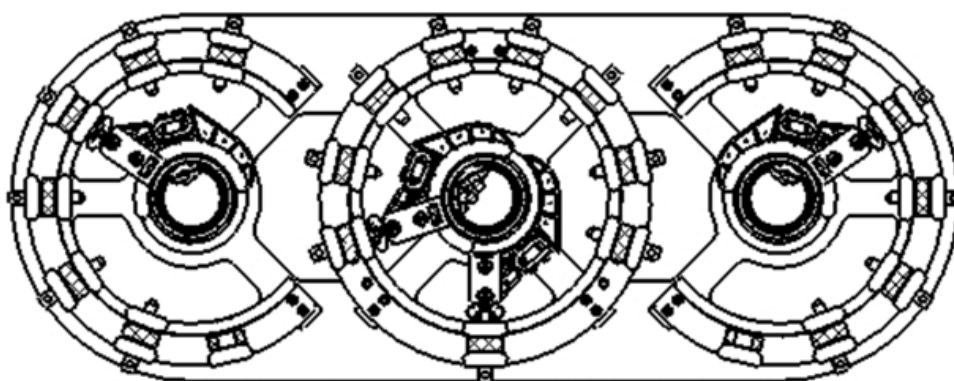

Figure 17 Wrapping insulation paper
- 3) I-500/600 tap selector's lead wires (2 in total) must be connected to the diverter switch phase A's contact led-out terminal. Then use a wire to short-circuit phases B and C (Figure 17).